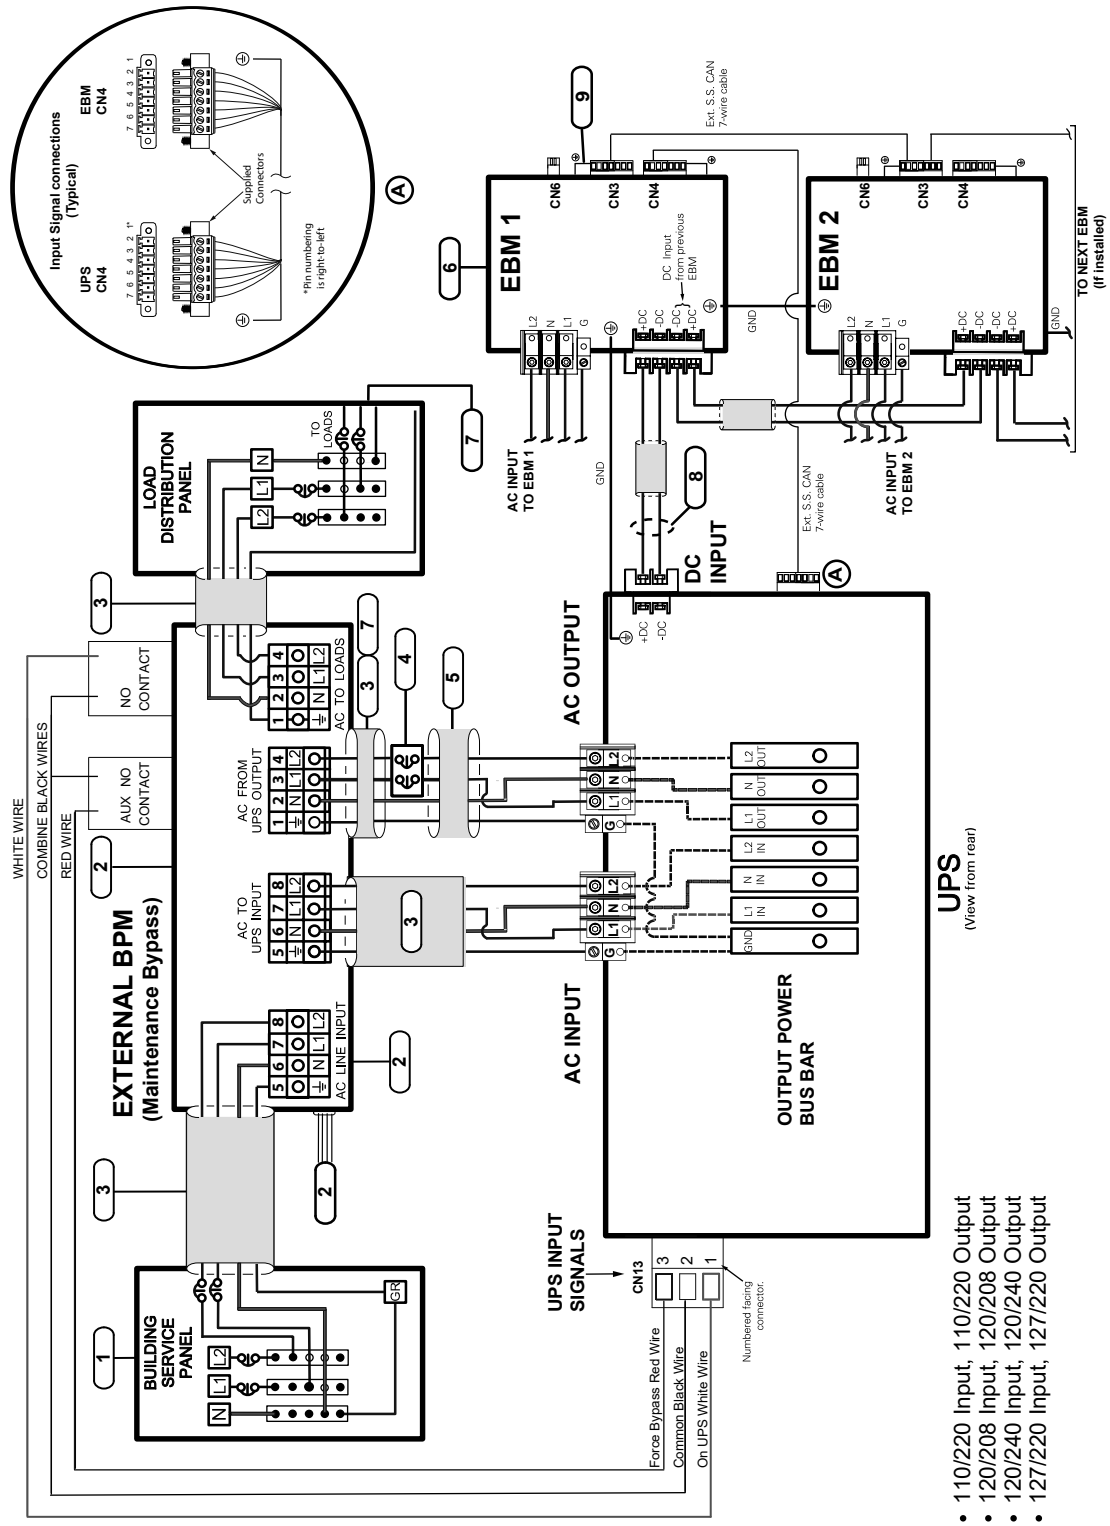
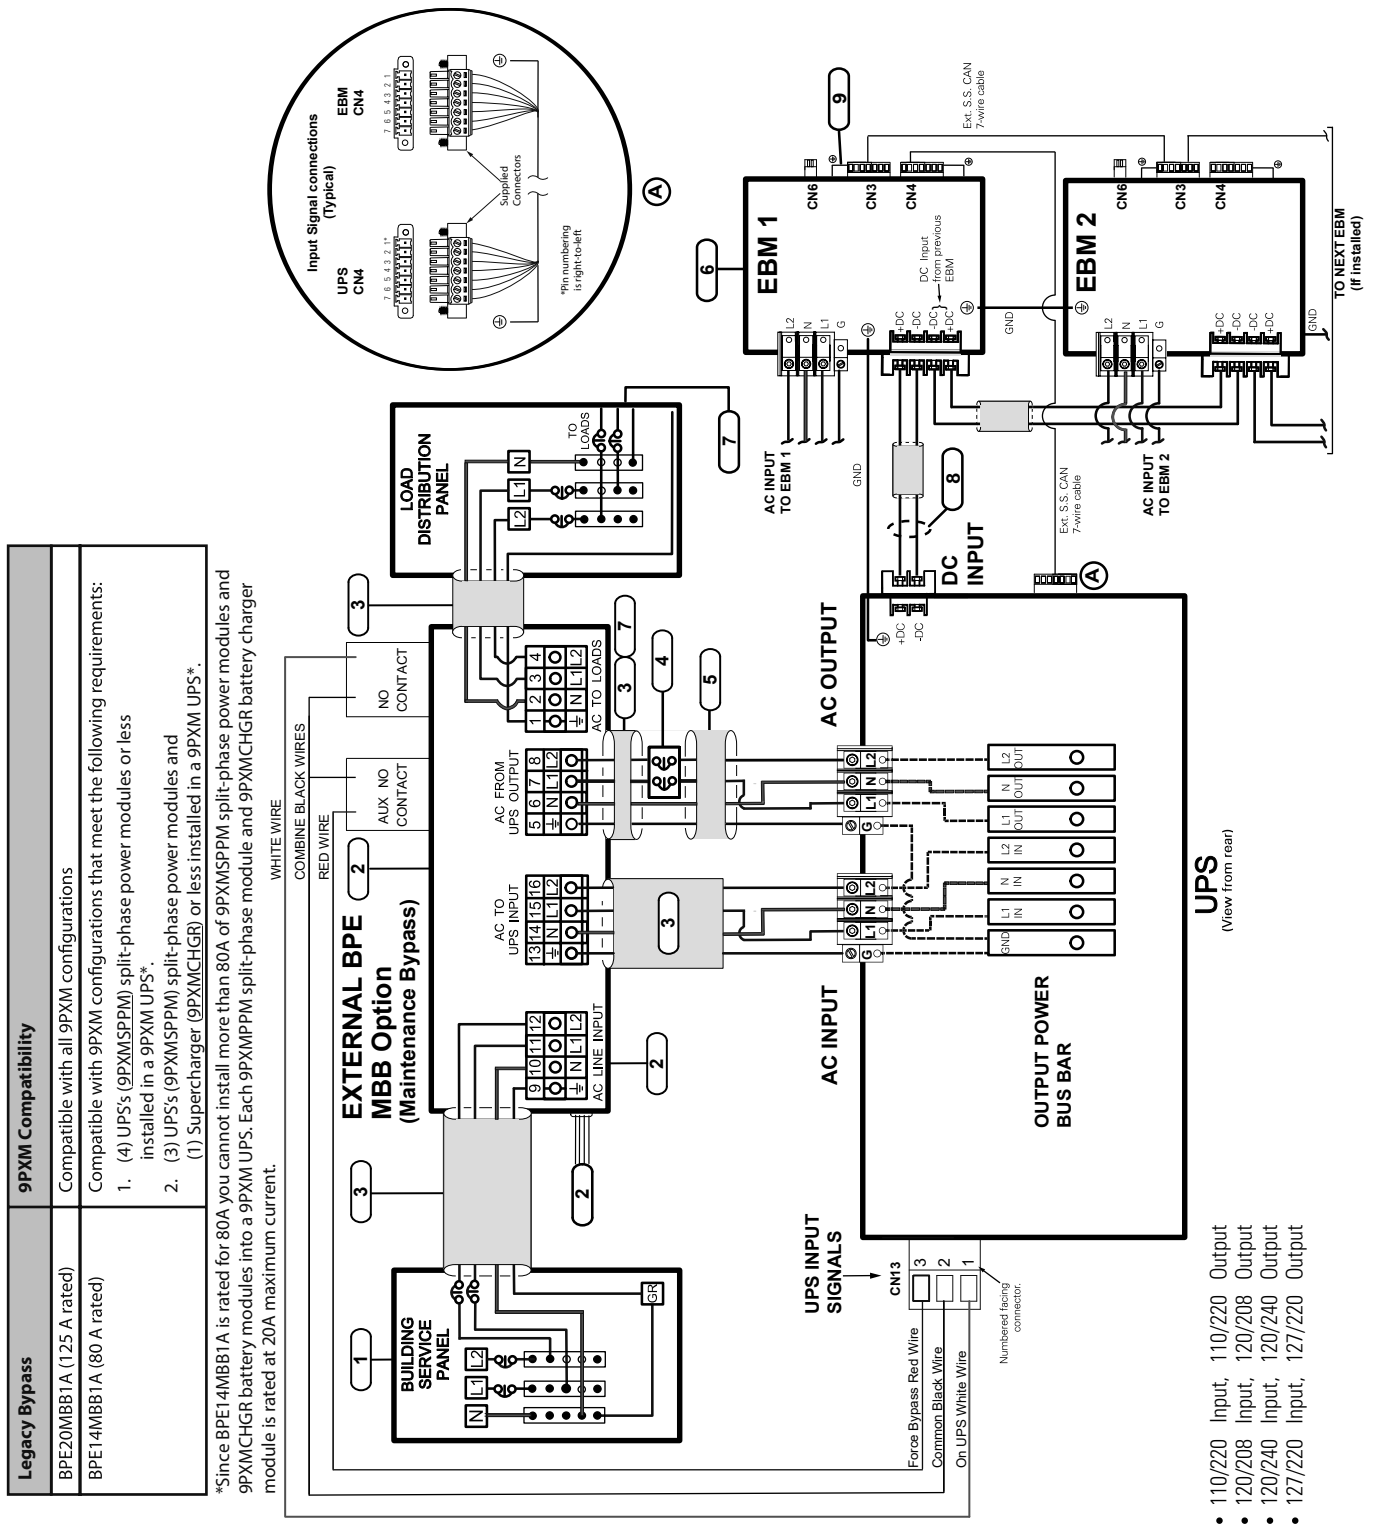

Figure 23. Wiring Diagram - UPS with External Bypass Switch (L1, L2, N)
Figure 24. Wiring Diagram - UPS with External Bypass Switch (L1, L2, N) and MBB Option
NOTE 2 Connection diagrams can be found on Figure 23 on page 26.
4. For BPE connections as shown in Figure 23:
5. Install the supplied wiring connectors to the UPS input control signal wires and connect to the terminals as shown in Figure 23. See Chapter 8, “UPS Communication Ports” from signal terminal identification.
8. After electrical installation is complete, you must also set the output settings menu (See Figure 58 on page 69) for the required output voltage as shown in the wiring configuration drawings (See Figure 23 on page 26).
The following notes are referenced by their number in the UPS with external bypass wiring diagram (see Figure 23 and Figure 24).